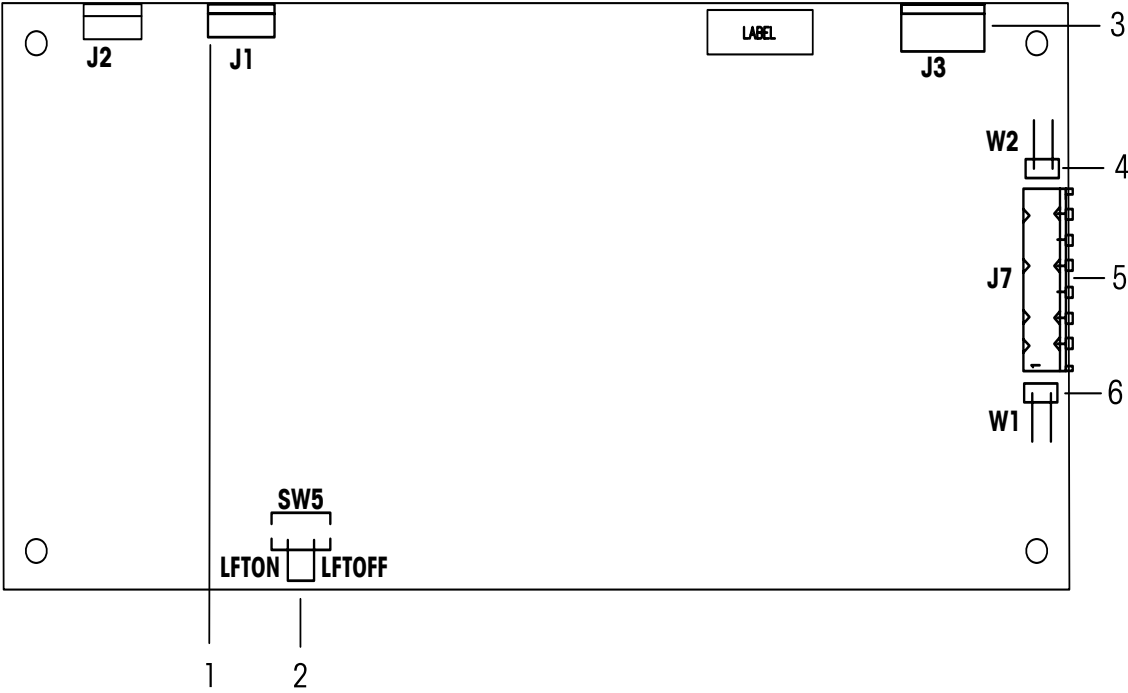

Figure 1-2. Main PC Board.
Pass the load cell cable through the strain relief (Figure 1-1, item 10) and attach it to terminal block J7 (Figure 1-2, item 5).